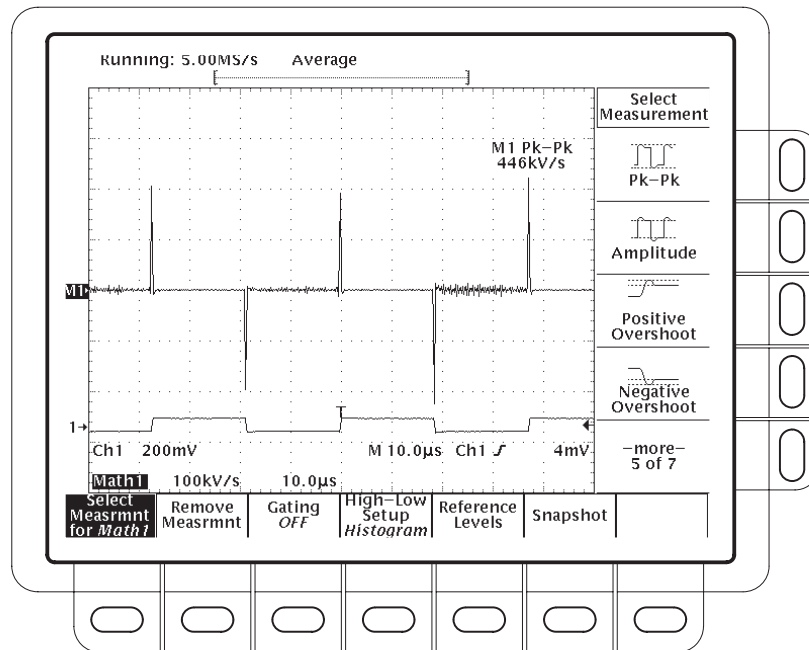

Figure 3-74: Peak-Peak Amplitude Measurement of a Derivative Waveform
3. Select up to four measurements in the side menu (see Figure 3-74).